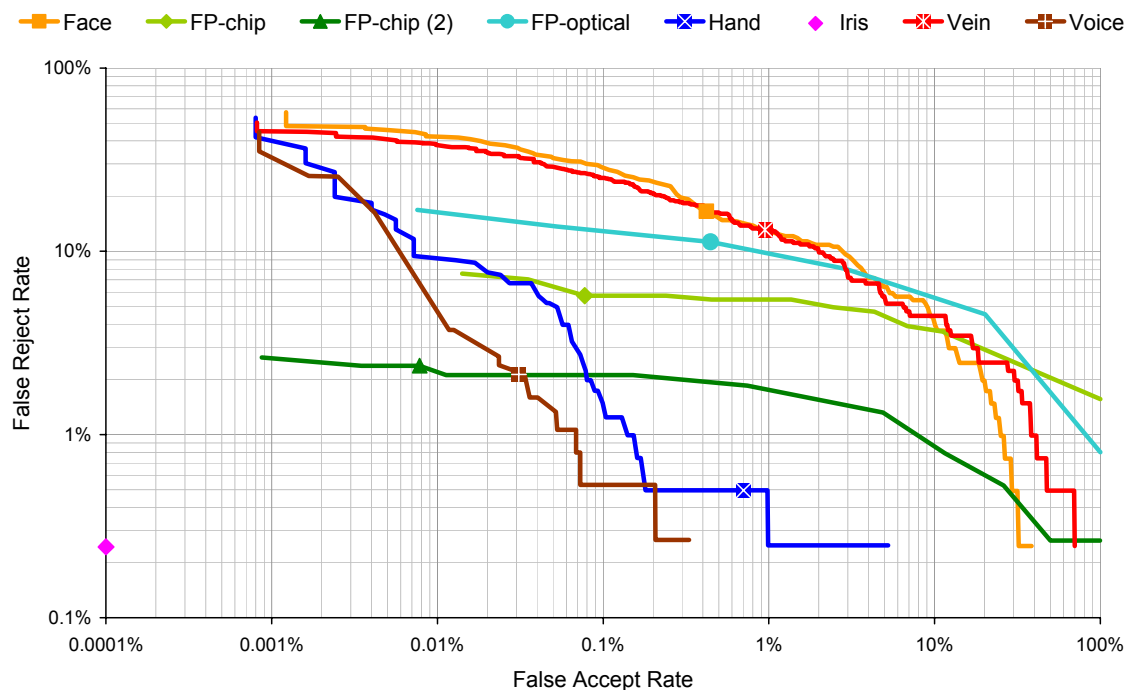

Figure 6. Detection error trade-off: Best of 3 attempts
38. The 3-attempt genuine and impostor scores are the best matching score from the 3 attempts made at the person-visit (scored against the chosen template). The resulting detection error trade-off (DET) curves are shown in Figure 6.
- In the case of the trial systems and data, the two curves follow each other closely⁸, so Figure 6 shows a single curve for each system⁹.